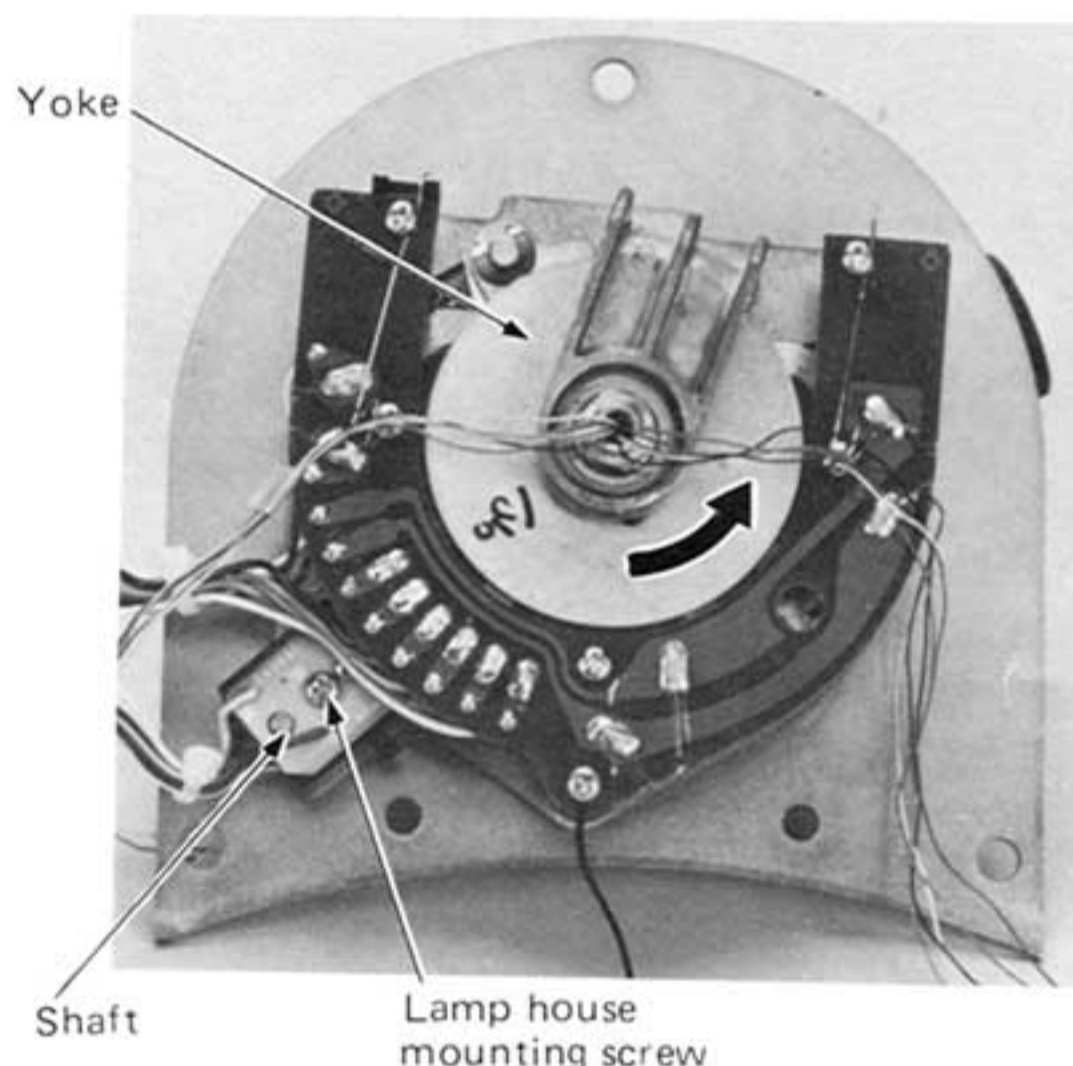

Fig. 21
## 8-(5) Removal of lamp house ass'y (Fig. 21)